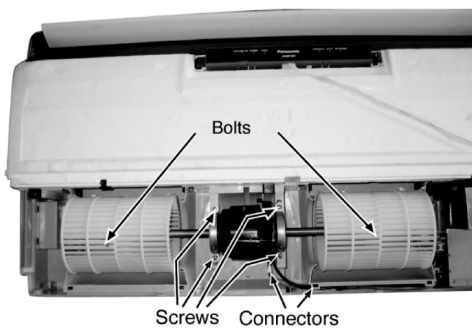

Fig. 4
1. Remove two Air Guider Blower Wheels (Fig. 4).